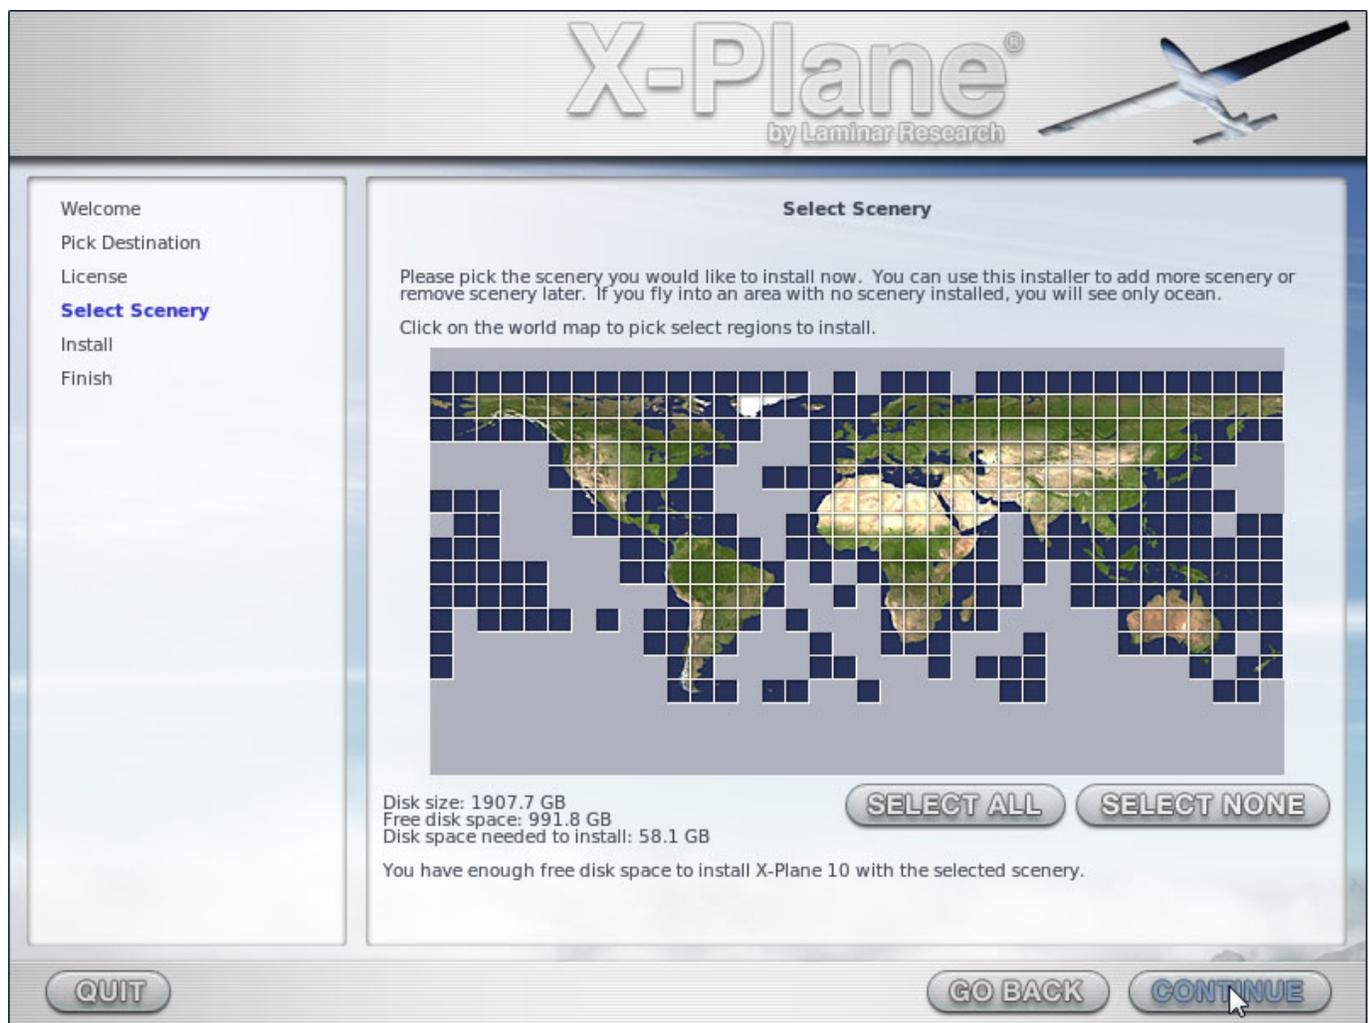

Figure 2.1: All scenery selected for installation after clicking “Select All”
7. Select the scenery you would like to install. Which parts of the world are selected by default depends on the installer you are using. An unselected tile will appear bleached in color, while a selected tile will have its full color (as all tiles do in Figure 2.1).